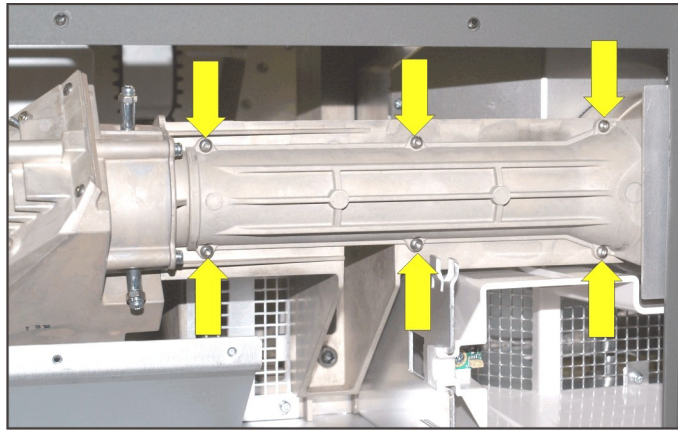

Figure 5-66 Remove Integrator Housing
6. Remove the six integrator housing screws (Figure 5-66).